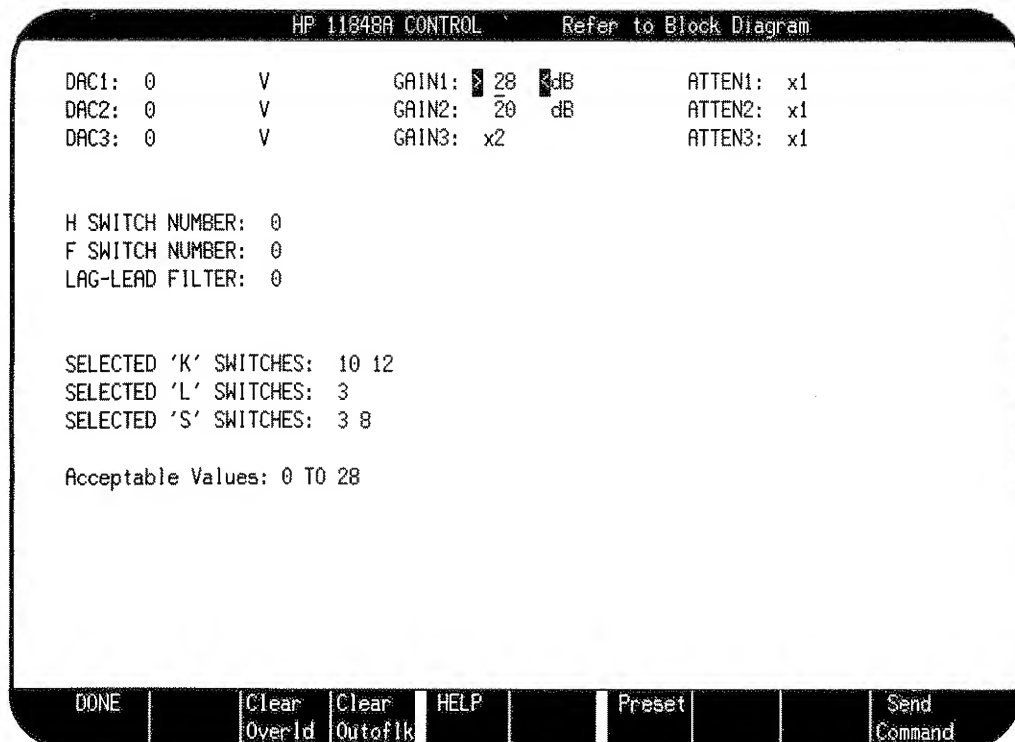

Figure 3-6. HP 11848A Control Display for FM Test
- d. Use the cursor control keys to move the cursor to the "SELECTED 'K' SWITCHES:" line then key in 10 and 12. (Refer to figure 3-6.)
- f. Press the **[Send Command]** softkey to initiate the commands. The display should appear as in figure 3-6 except for the cursor position, the values following "GAIN1:" and "GAIN2:" (which will be entered later), and the bottom line.
- c. Press the Send Command softkey to initiate the commands. (The display should now appear as in figure 3-6.)